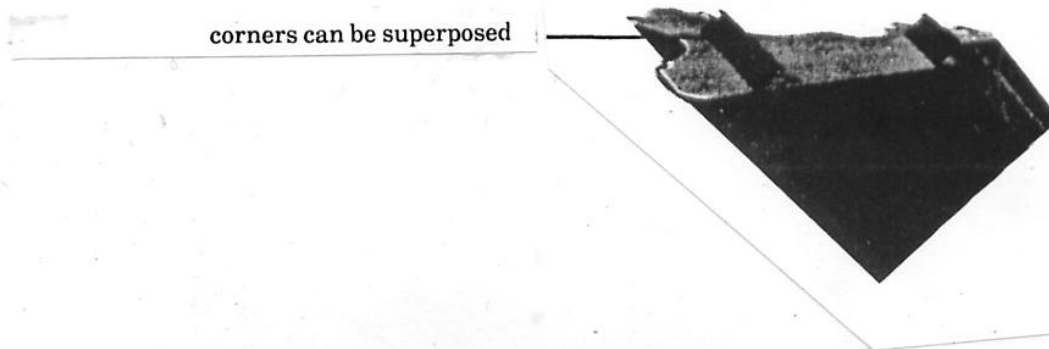

FIGURE 7
**N.B. :** Staples of the same dimensions can be superposed (see Fig 7). This avoids having to change the staple cartridge when assembling frames with different thicknesses.